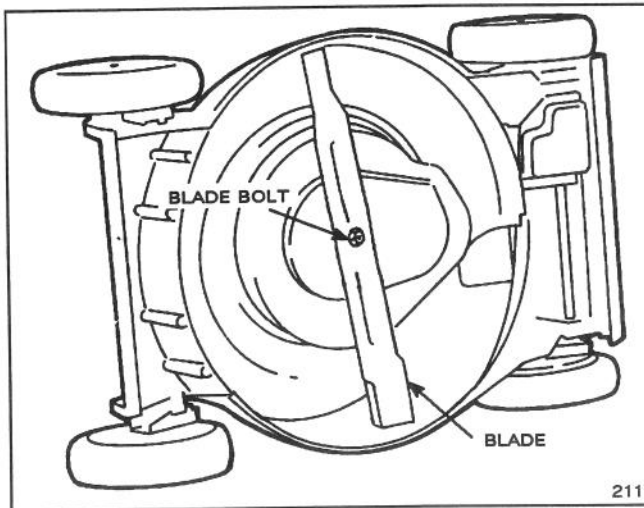

Figure 24
3. Tip mower on its right side (Fig. 24).
5. REMOVING BLADE—Grasp end of blade using a rag or thickly padded glove. Remove blade bolt, washer, blade, and blade retainer (Figs. 24 & 26).